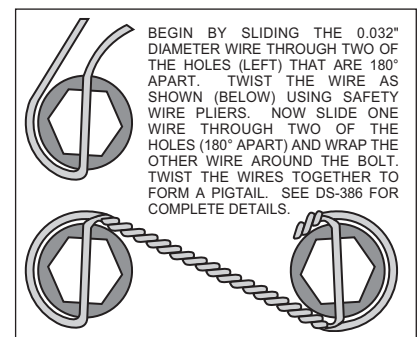

Figure 3. Safety Wire Diagram
•With the larger I.D. side of the rotor (6) facing away from the hat (7), bolt rotor (6) to hat (7) through the backside of the rotor using washers (8), and bolts (9). Be sure all bolts thread in smoothly and are snug. Then, torque all bolts in an alternating sequence to 85 **in-lbs**. The rotor mounting bolts (9) must be lockwired using standard 0.032 inch diameter stainless steel safety wire as shown in Figure 3. Please refer to Wilwood's data sheet DS-386 (available at www.wilwood.com/Pdf/DataSheets/ds386.pdf) for complete safety wire installation instructions.
•Slide the brake pads (15) up into the caliper (10) from the bottom until the "v" spring clip snaps into place against the anvil. They should install easily without interference.
•Lubricate caliper mounting studs and nuts with lightweight oil. Install two shims (14) over each stud (13) on the radial mount bracket (1). Slide the caliper (10) in place over the studs and rotor and install the washer (12) and lock nut (11) to hold the caliper in place. The caliper bleed screw should be pointing toward the front of the vehicle. Snug the lock nuts (11) and check that the caliper (10) is centered over the rotor (6). Add or subtract .016" shims (4) and/or .035" shims (5) as necessary between the caliper mounting bracket (1) and the spindle face to center the caliper (10) on the rotor (6).
•Check that the outside radius of the brake pad (15) is aligned with the outside diameter radius of the rotor face. Add or subtract shims (14) between the caliper (10) and the caliper mounting bracket (1) to gain the proper alignment.
•Once all clearances have been checked, remove the wheel, caliper and rotor from the axle flange. Secure the caliper mounting bracket (1) to the spindle face while applying red *Loctite*[®] 271 on the bolt threads (2). Torque the bolts (2) to 22 ft-lbs. Reinstall the rotor and again use several lug nuts to hold it in place being sure to align the small countersunk holes in the hat (7) with the corresponding holes in the hub. Reinstall the caliper, torque the caliper nuts (11) to 30 ft-lbs.